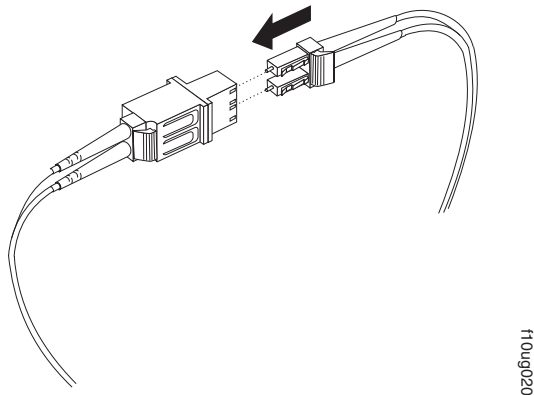

Figure 47. Connecting an LC-LC cable into the LC-SC cable adapter
4. Carefully insert the other end of the LC-LC cable into the LC connector end of the LC-SC cable adapter as shown in Figure 47. Push in the connector until it clicks into place.